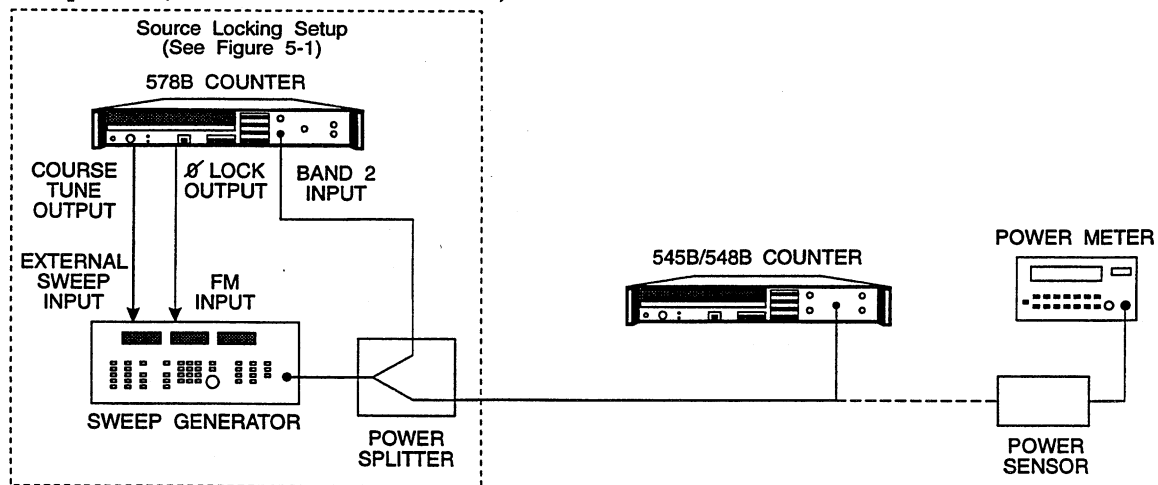

Figure 5-5. Band 3 Range and Sensitivity Test Setup.
- Connect equipment as shown in Figure 5-5.